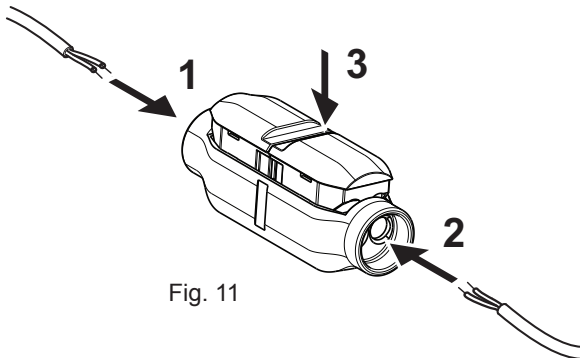

Fig. 11
21. Press the connector together to retain and connect the cables (Fig. 11).